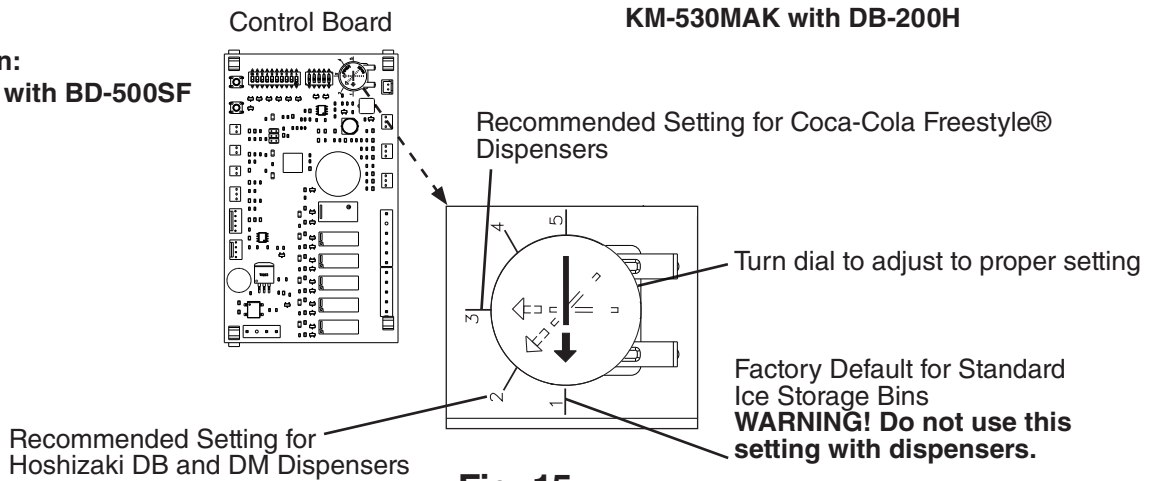

Fig. 15
b) KM-330_530_730MAK, KM-930MAK2, and KM-1130M_K(Z)2. See Fig. 15.